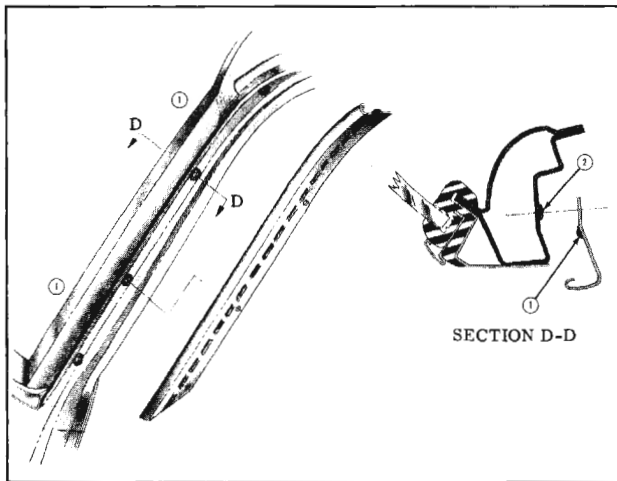

Fig. 16-221 Windshield Pillar Drip Molding Sealing
2. To install, apply medium-bodied sealer to screw attaching holes as indicated by #1 and to drip molding as indicated by #2 in Fig. 16-221 and reverse removal procedure.